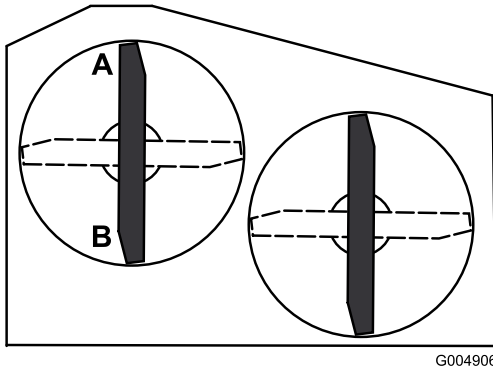

Figure 56
2. Position one blade front-to-rear. Measure at **A** and **B** locations from a level surface to the cutting edge of the blade tips (Figure 56).